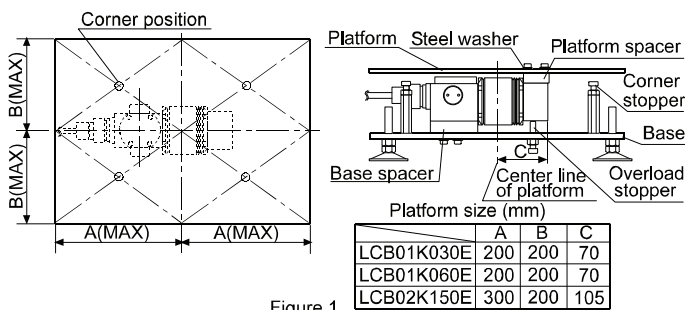

Figure 1
- For the allowable dimensions of the platform, see Figure 1. Also, when designing a platform, see the "OVERLOAD PRECAUTIONS" on the next page.
When a load is applied to the center of the load cell, a load of less than 150% of the rated capacity will not cause any trouble. However, the allowance range of the overload is reduced as the loading point shifts from the center of the load cell. Therefore, the allowable limit at the corner of the platform should be 100% of the rated capacity. (See Figure 1 of corner position.) Repeated overloading, exceeding the allowable limit, may shorten the service life of the load cell, and may even destroy it in extreme cases. This also applies to a lateral load.